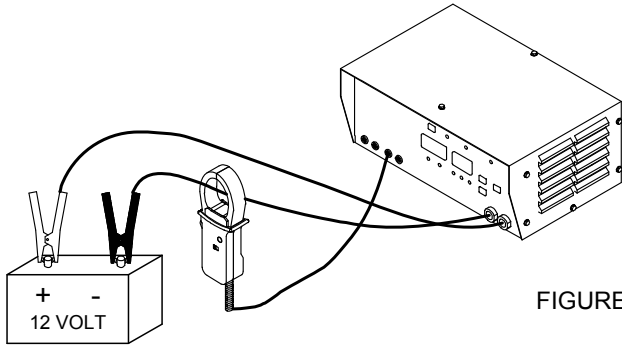

FIGURE 2
- 1) Attach red and black heavy duty leads to the positive and negative battery posts (see figure 2). Twist or rock clamps back and forth several times to make a good connection.